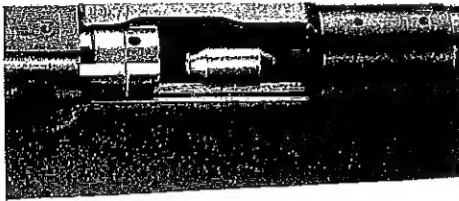

FIGURE 3
6. WITH THE SAFETY IN THE FULL-SAFE POSITION, CHAMBER A PRIMED PERCUSSION MODULE. Insert the tapered nose of an percussion module (see FIGURE 3) and close the bolt to chamber the module and No. 209 shotshell primer (see previous section). SINCE THE SAFETY WILL AUTOMATICALLY MOVE TO THE MID-